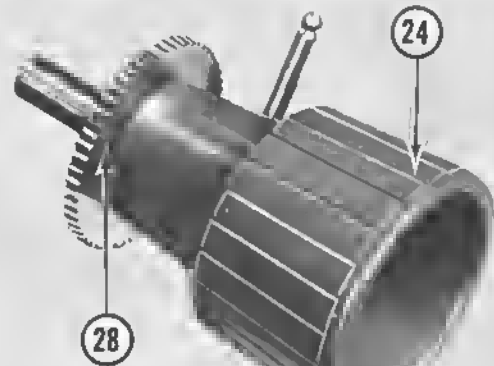

Figure 39
The DS VariTyper Machine has an auxiliary line spacing device that uses a variety of changeable gears, each of which is specially notched to produce a "set" line spacing. A VariLine gear (28) is slipped over the shaft of the right end of the feed roll and is secured on the shaft by the right feed roll knob (24) (Figure 39).